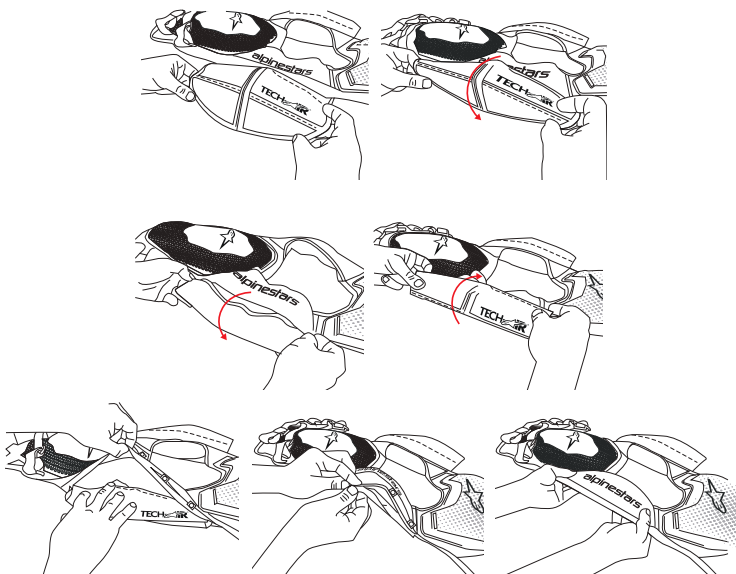

Figure 21: How to fold the airbag of the shoulder area
After each deployment of the System, the User must correctly position the Airbag (11) in the shoulder area by following the instructions printed directly on the Airbag (11). The process consists of the following steps (depicted in Figure 21):
- 1) Following the dashed lines, fold the Airbag (11) twice downward ("FOLD UNDER") and once upward ("FOLD OVER"). At this stage, the Tech-Air[®] logo should be clearly visible on the upper part of the Airbag (11);
- 2) Neatly insert the folded Airbag (11) into the opening present in the System's shoulder straps.
- 3) Secure the fastening buttons on the opening and ensure the Airbag (11) is free of wrinkles or creases.